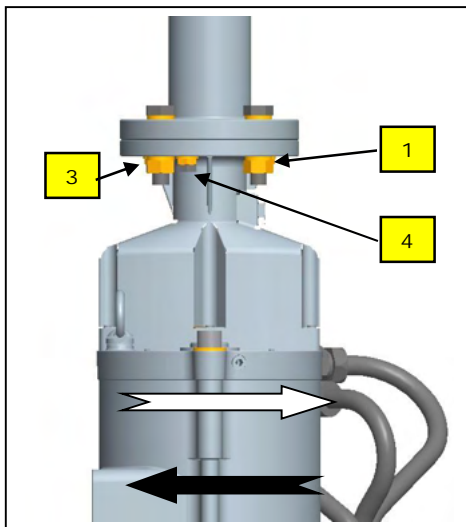

Fig. 19
- Move the vertical axis toward (white arrow – Fig.19) and unscrew the screws 1-2-4 and fix the M12 screw until the end of the working range
- Move the vertical axis back (black arrow – Fig.19) and unscrew the special screws 4-2-3 and fix the M12 screw until the end of the working range.